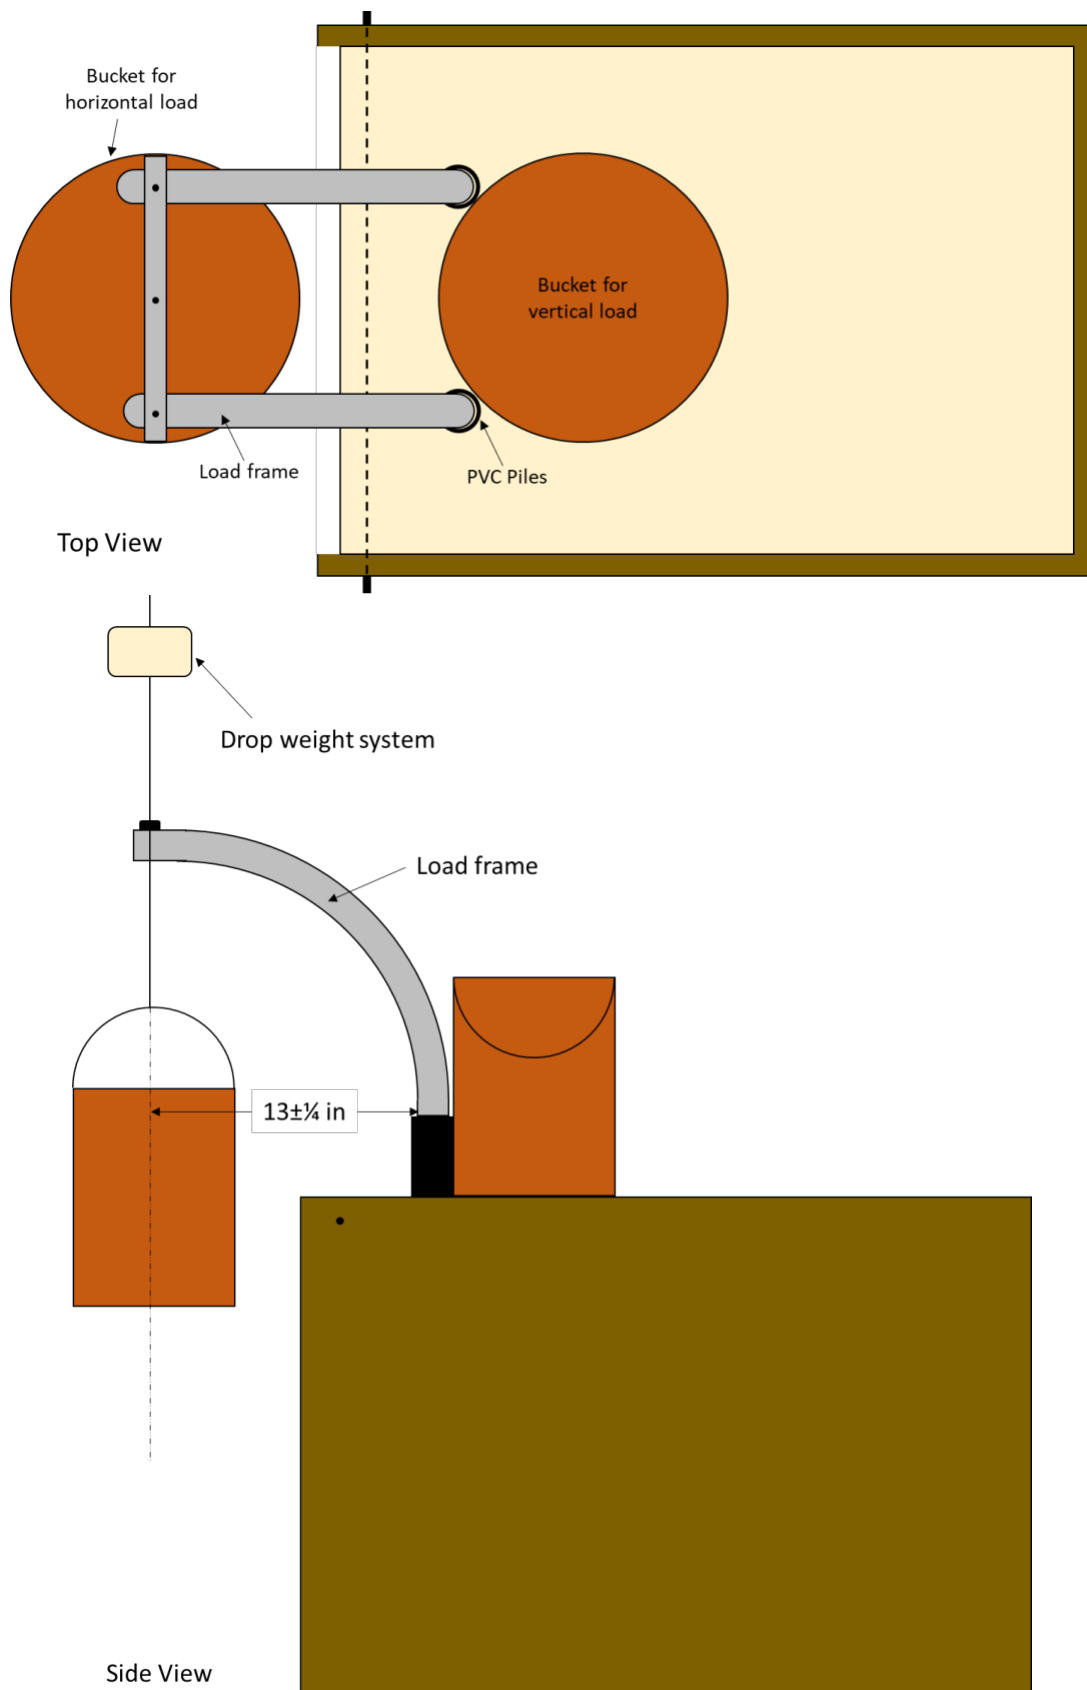
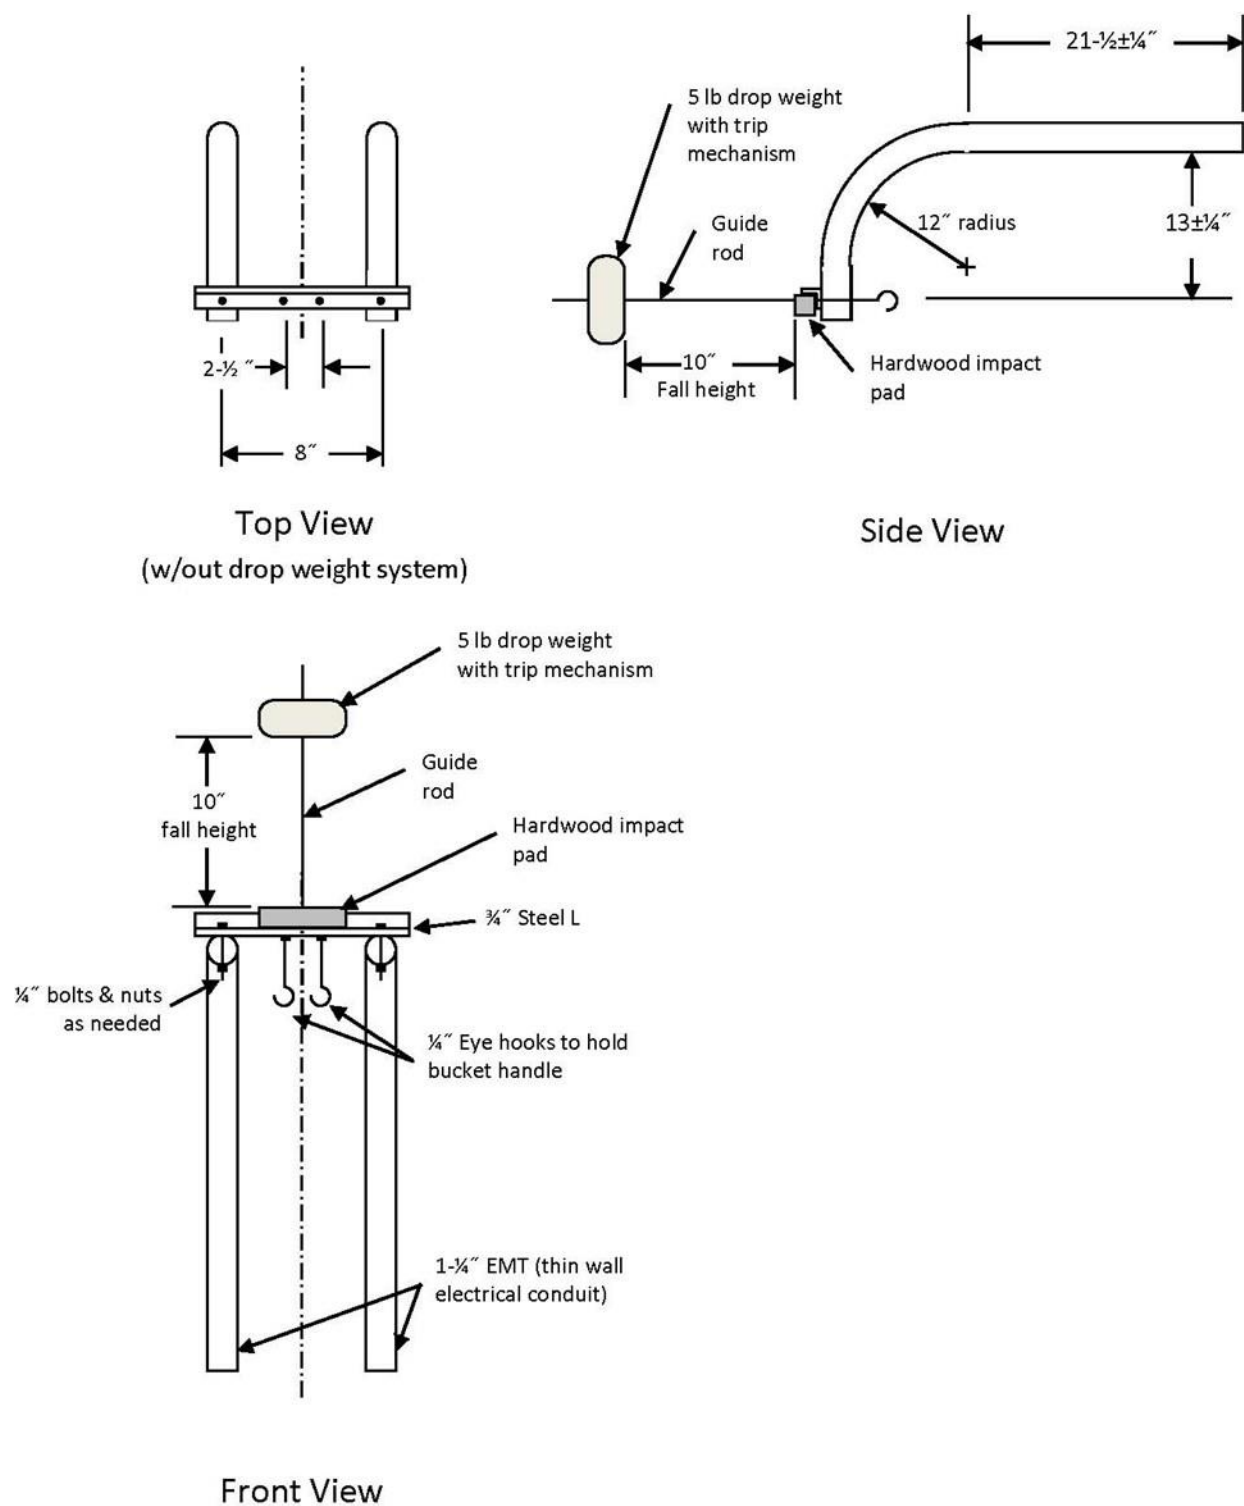

Figure 5: Load Placement (not to scale)
Figure 6: Dimensions of Horizontal Load Frame (not to scale)
- c) **Construction Stage** – After the wall is assembled and checked by the judges, the judges will instruct the team to start construction. During this stage, the team fills the box with sand so that the sand fill line (see Figure 2) is covered and the backfill is level, and an empty 5 gallon vertical surcharge bucket is placed on top of the sand centered behind the PVC piles, as shown in Figure 5. The facing material must be in direct contact with the inside of the sandbox at all times during this stage. The tie rod, PVC tunnel and PVC piles may be removed from the box at the start of this stage, but they must be in place before any sand is placed in the box. Temporary templates or guides may be used during this stage so long as they are removed before the end of the stage.
- d) **Loading Stage** – Details of the load placement are shown in Figure 5. This stage occurs in three steps: 1) removal of tunnel restraints and front panel, 2) placement of 50 lb vertical surcharge load, and 3) placement of the 20 lb static horizontal surcharge load in an empty 5 gallon bucket on the loading frame followed by a single application of the dynamic horizontal load. During each step, the wall will be checked for the following three criteria: 1) excessive deformation (any portion of the wall extending outside the imaginary plane extending vertically from base of sandbox), 2) excessive soil leakage (more than 30 cm³ of sand passing out of the sandbox), and 3) catastrophic failure. The team will be penalized for excessive soil loss and excessive deformation, but will be disqualified for a catastrophic failure.
- i. When directed by the judge, the team shall remove the tunnel restraints and the front panel of the sandbox. After the panel and restraints are removed, the judge will wait one (1) minute and then check the three criteria.
- ii. If the wall does not fail catastrophically, the team will then place 50 lbs of sand in the empty 5 gallon bucket on top of the sand. The team will have one (1) minute to place the load. After the load is placed, the judge will wait one (1) minute and then check the three criteria.
- iii. If the wall does not fail catastrophically, the team will place the 5 lb drop weight on top of the load frame, hang an empty 5 gallon bucket on the loading frame, place 20 lbs of sand in the bucket (see Figures 5 and 6), and then trip the drop weight for a single application of the 5 lb weight falling 10 in and impacting the top of the load arm (see Figure 6). The team will have one (1) minute to complete this loading sequence. After the sequence is complete, the judge will wait one (1) minute and then check the three criteria. The horizontal load frame with vertical drop weight will be provided by the competition organizers. Teams should not bring their own load frames to the competition and will not be permitted to use their own.